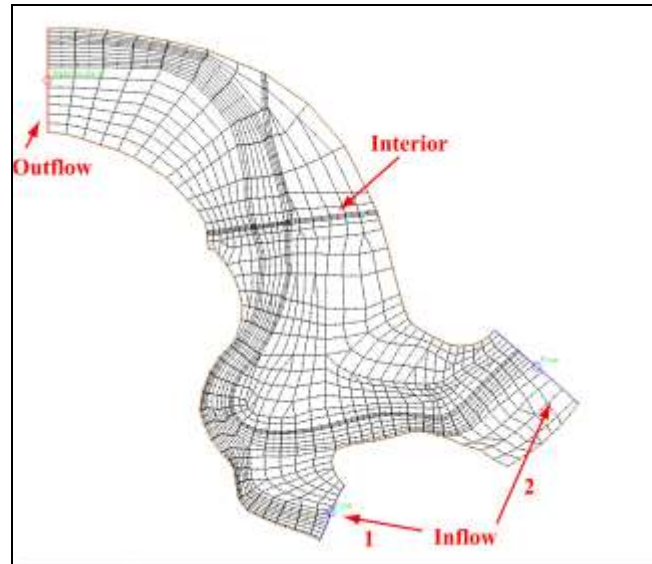

Figure 4 Position of the boundary nodestrings in the mesh
This example will have two inflow boundaries, one outflow boundary, and one interior boundary, so four nodestrings must be created. These boundaries are highlighted in Figure 4.
2. Create a nodestring on the interior of the mesh as indicated in Figure 4.